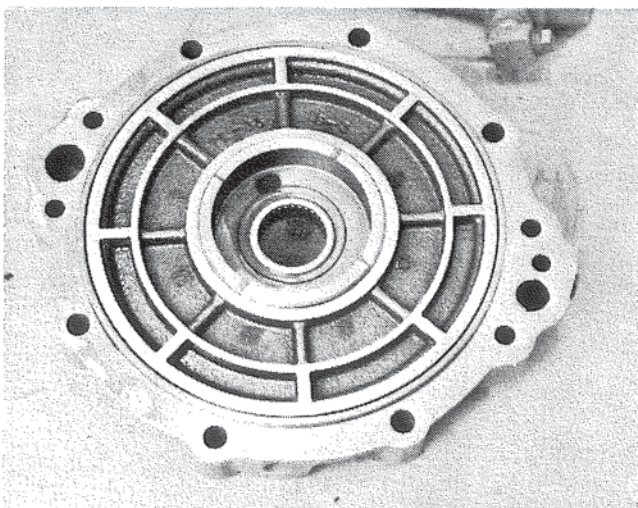

Figure 75. Installing Reverse Clutch Piston in Adapter.
4. Place the reverse clutch piston, as assembled in step 2 on the adapter, as assembled in step 1. Figure 75. Press down on reverse clutch piston while pulling a smooth, clean screwdriver blade around the exposed portion of the sealing ring. This will aid the camfered bore in the adapter to compress the sealing ring into the groove in the outside diameter of the piston. Assembly can be completed by using hand pressure until piston has "bottomed" in reverse clutch cavity.